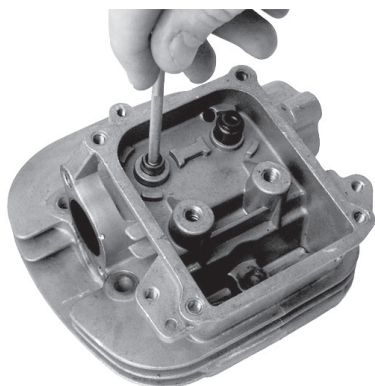

Figure 7-8. Measure Valve Guide Inner Diameter
2. See Figure 7-8. Clean valve guides and measure inner diameter using a split ball bore gauge. Replace head if either valve guide measures 0.278 in (7.06 mm) or more.